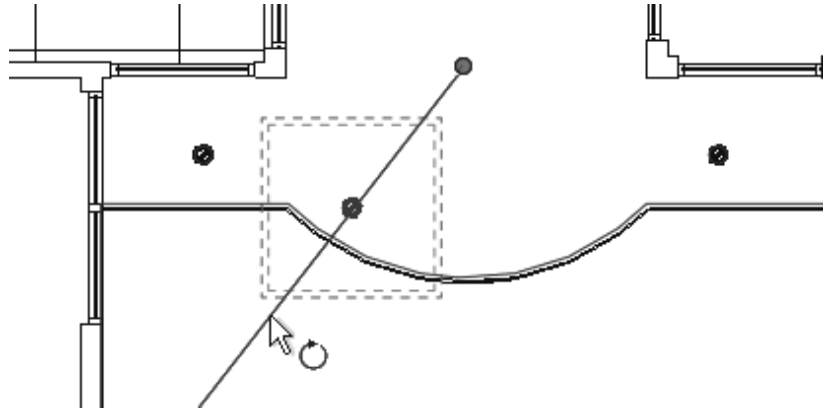

Figure 2–56
4. Drag  (Center of Rotation) or in the Options Bar click **Place** to move the center of rotation to the appropriate location, as shown in Figure 2–56.